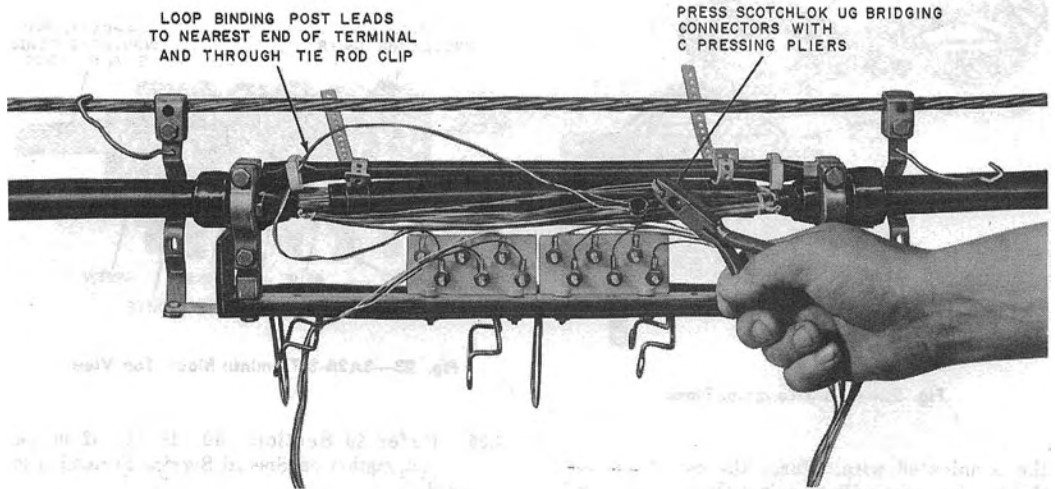

Fig. 25—Bridging Binding Post Leads to Cable Conductors
- 3.08** Current terminals are furnished with two terminal blocks (Fig. 25) in positions 2 and